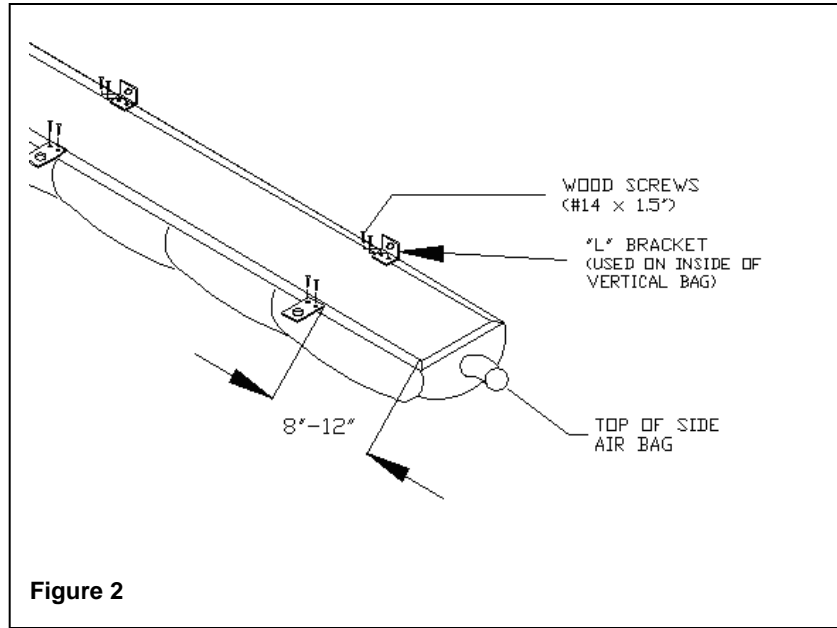

Figure 2
Fasten the angle brackets (3) to the inside edge of the vertical side bags as shown in **Figure 2** using two(2) #14 x 1.5" (38mm) wood screws for each bracket. Repeat on outside edge of the side bags with flat brackets (3). Position the brackets so they line up with the mortar joints on block walls.